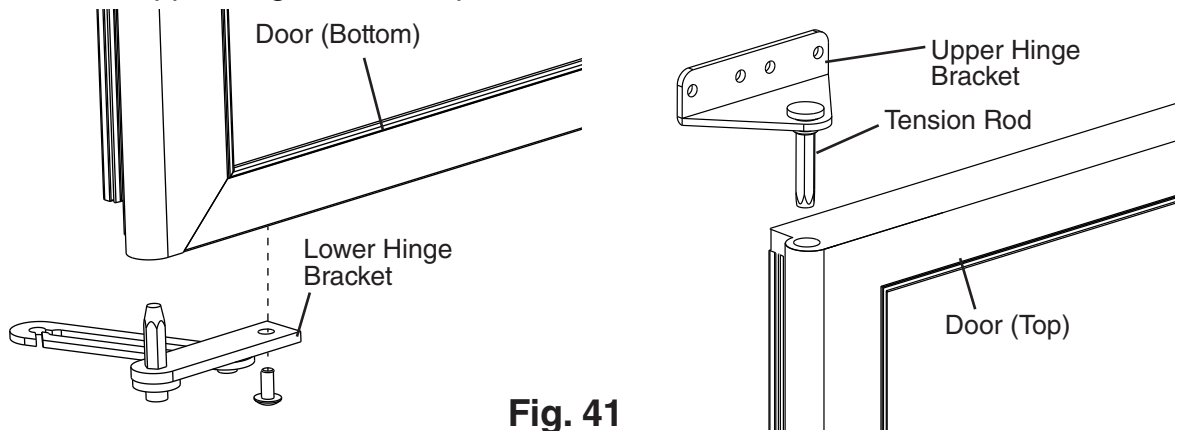

Fig. 41
15) Rotate the door 180 degrees and place the lower hinge in its new position and secure. See Fig. 41.